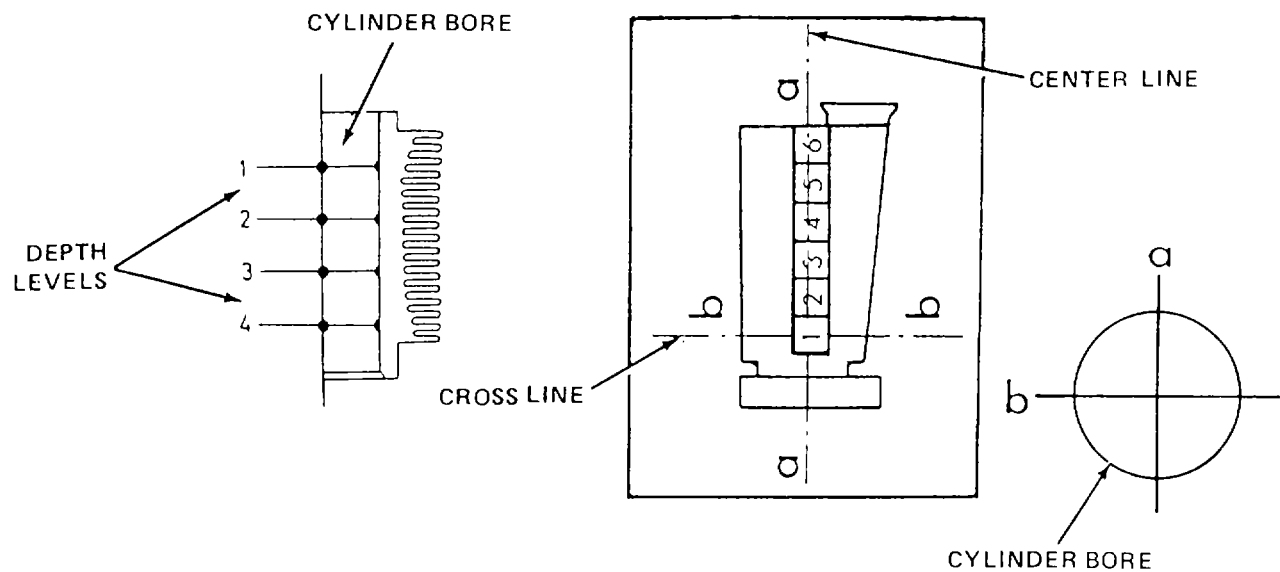

Figure 4-7. Cylinder Measurement
- (1) Inspect cylinder walls for scratches or other damage. Replace damaged cylinder.
- (2) Check machined mating surface on top and bottom of cylinder. If surface is not smooth or is grooved pitted, replace cylinder.
- (3) Measure cylinder bore at depth levels 1, 2, 3, and 4 (Figure 4-7).